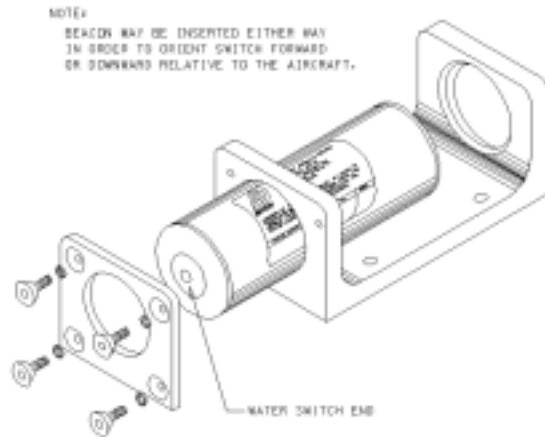

Figure 10. Installation of N30A29 Series Mounting Kit and Beacon
- D. Insert the beacon into the mounting cradle with the water switch facing forward and/or downward with reference to the aircraft. Rotate the beacon in the mount so that the beacon replacement date can be read. See Figure 10.